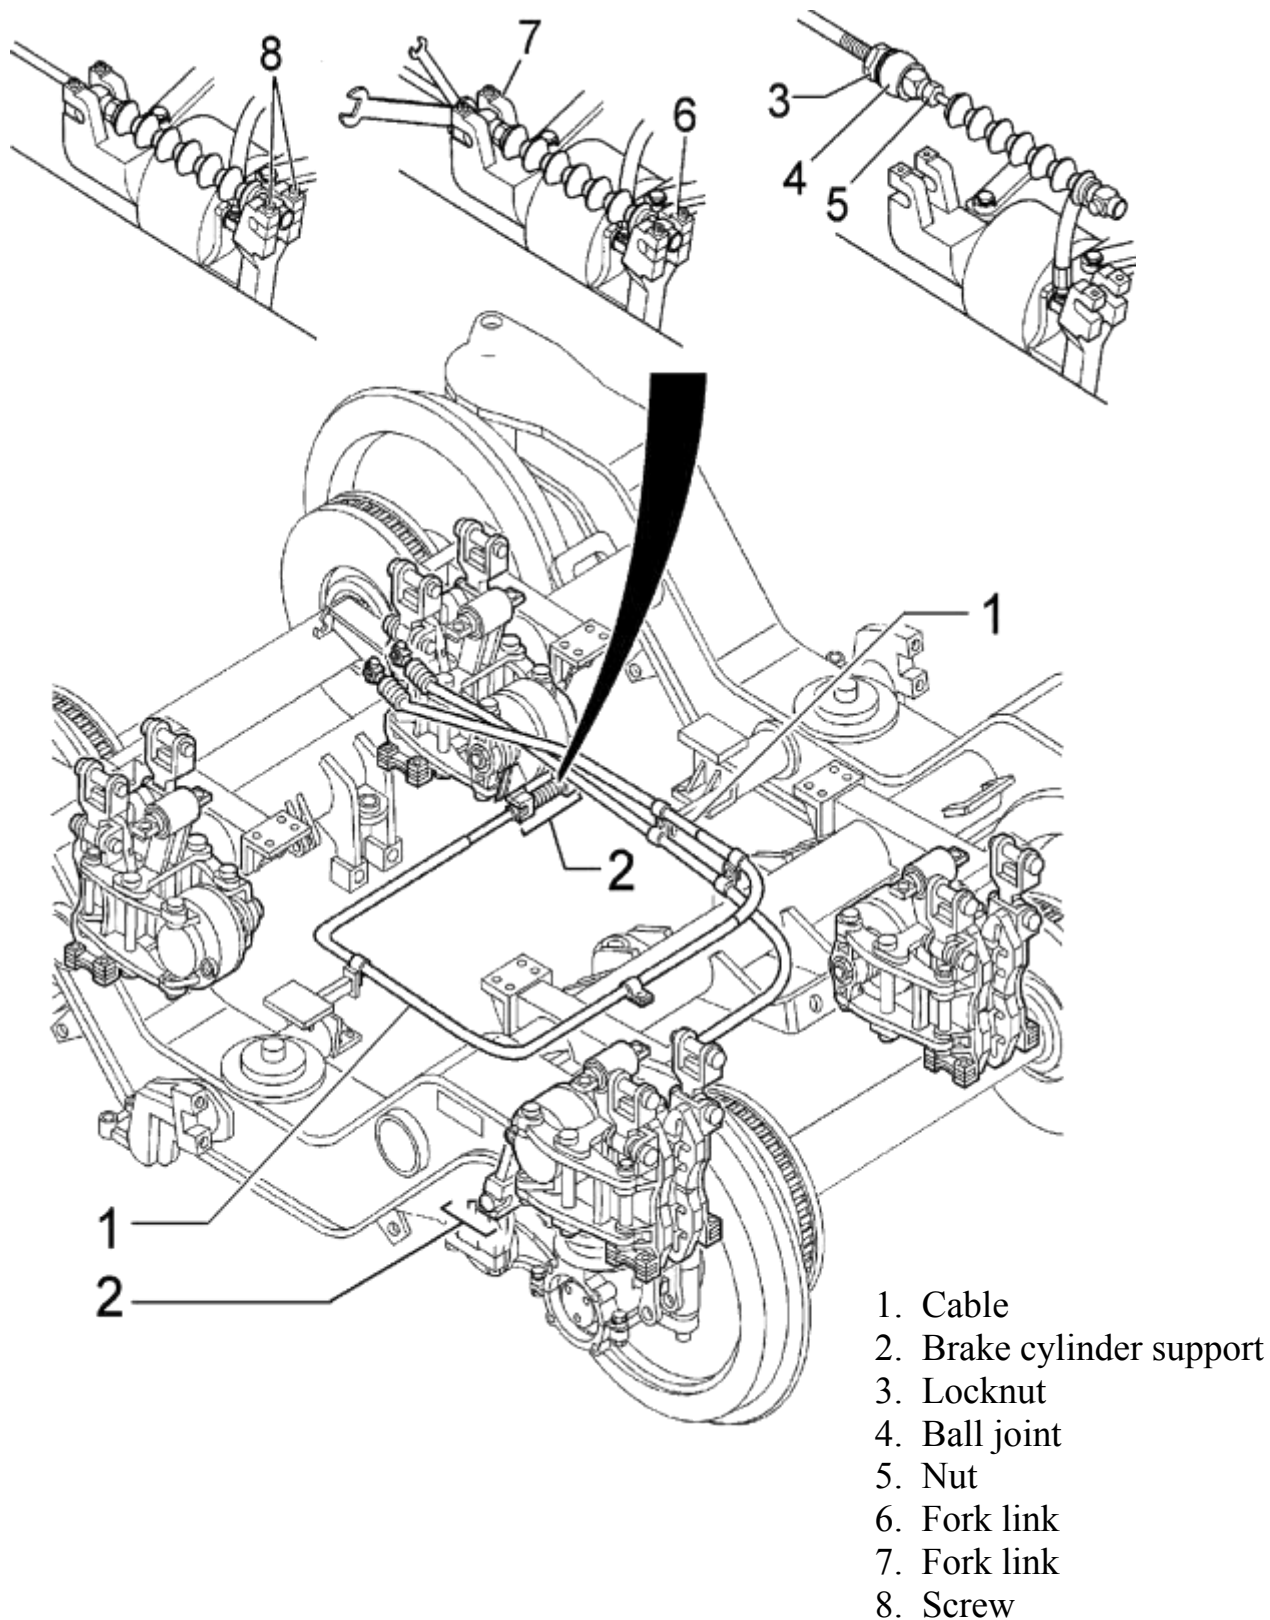

FIG. 4.35
Then disconnect the other ends of the cables (1 - FIG. 4.35) from the brake cylinders (2): unscrew the screws (8) from both supports; rotate the locknut (3) and then the ball joint (4) until it touches the locknut (3) again. Unscrew the nut (5) and unlink the cable from both fork links (6) and (7).